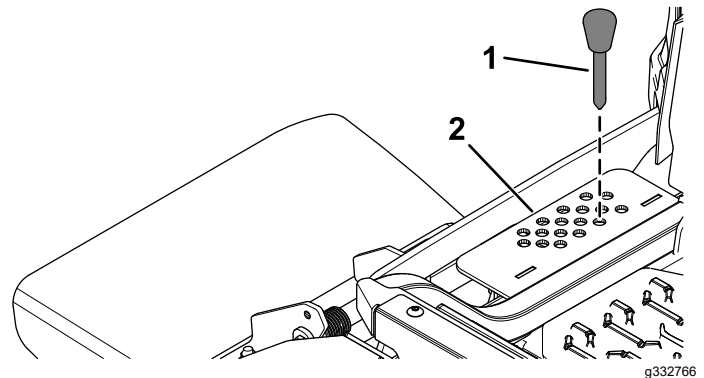

Figure 2
9. Remove the height-of-cut pin from the height-of-cut bracket (Figure 2).